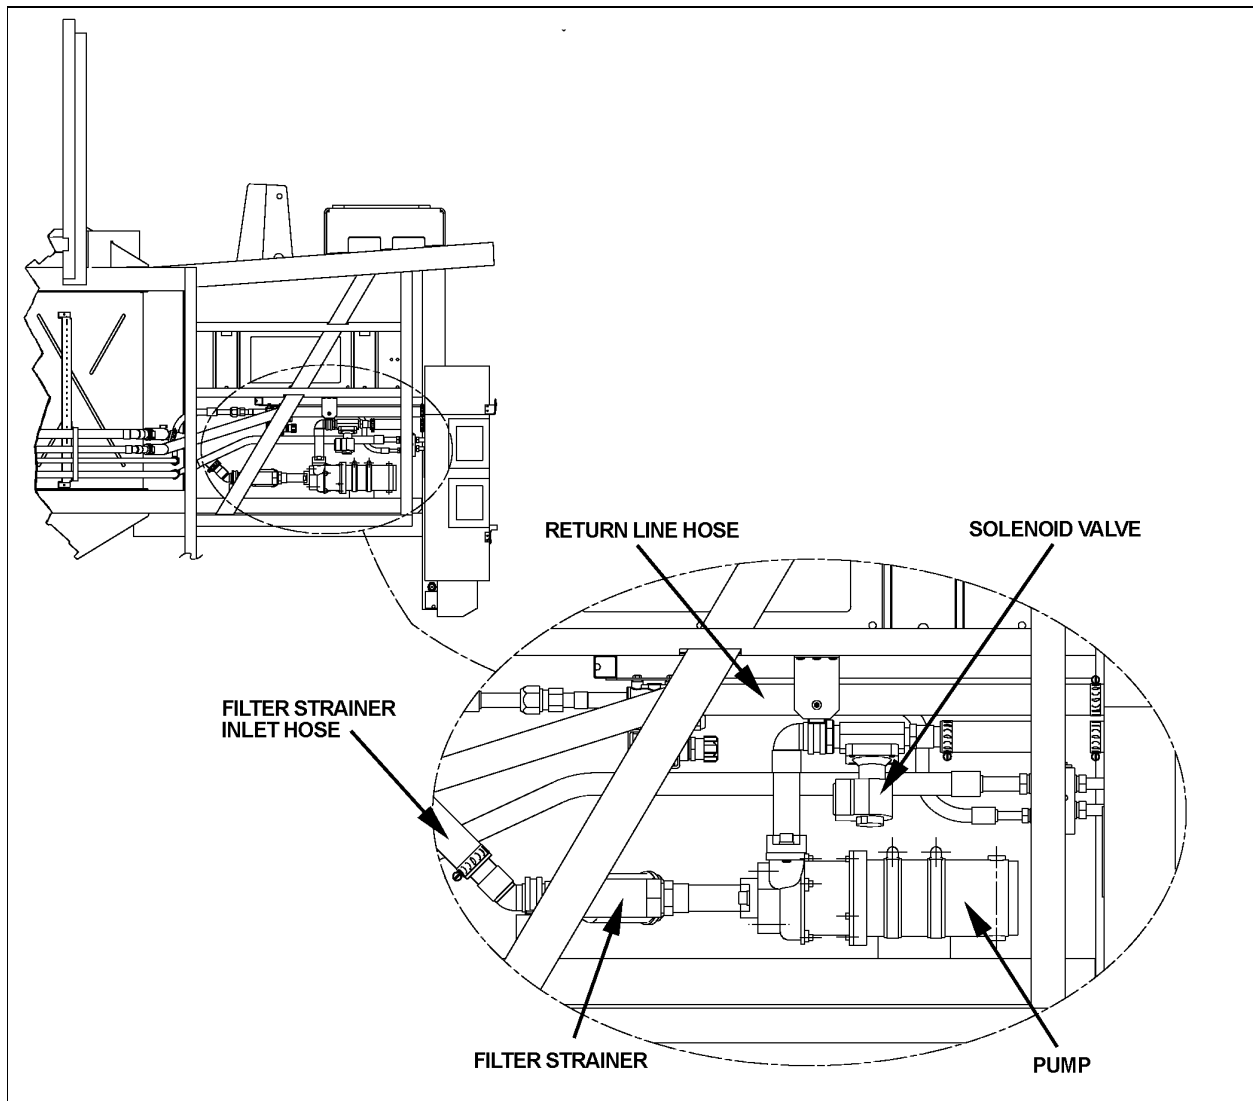

FIGURE 6
- Using locking pliers, pinch the 2 following hoses: filter strainer inlet hose and return line hose (refer to figure 6).